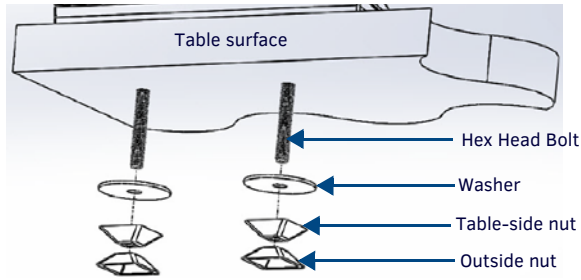

FIG. 5 INSTALLATION, UNDERSIDE OF THE TABLE SURFACE
- Attach the spare outside nut to the end of the hex head bolt, wide side away from the table, and finger-tighten to the table-side nut (FIG. 5).